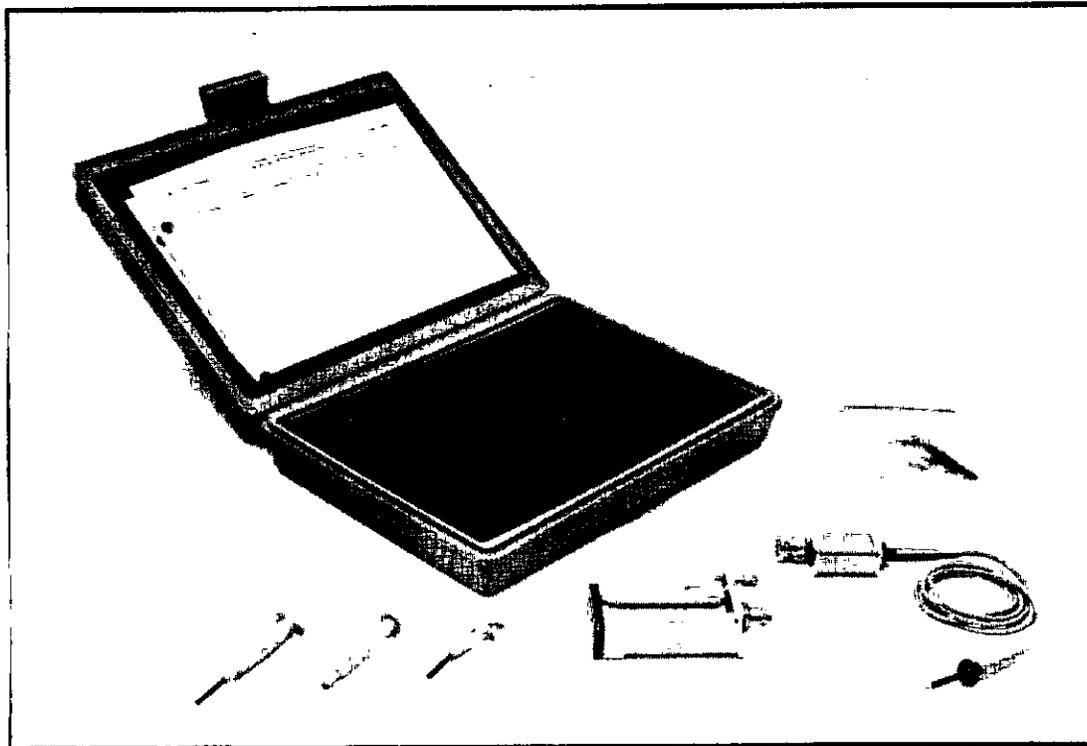

Figure 1-2. 54003A 1 MOhm, 300 MHz with 10:1 Probe
- 54003A 1 MOhm, 300 MHz, with 10:1 probe. (See figure 1-2.)